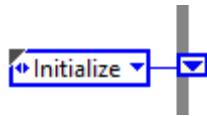

FIGURE 3.10 Wiring the state control constant to the shift register.
4. Right-click on a blank space in the diagram outside the While Loop and choose **Select a VI...**. From the dialog that pops up, select the new control you just created (it will have the extension .ctl), and wire it as in Fig. 3.10, so that the first state the machine enters is the **Initialize** state.